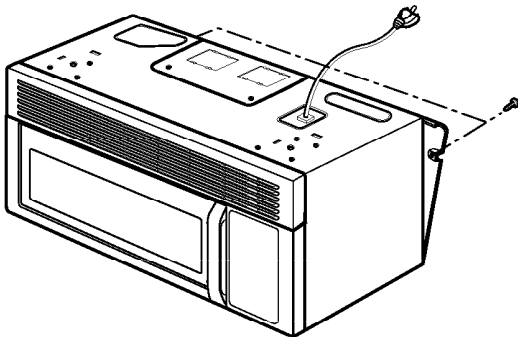

Figure 18
- (1) Remove the mounting plate by removing two screws securing it to the back plate. (See Figure 18)